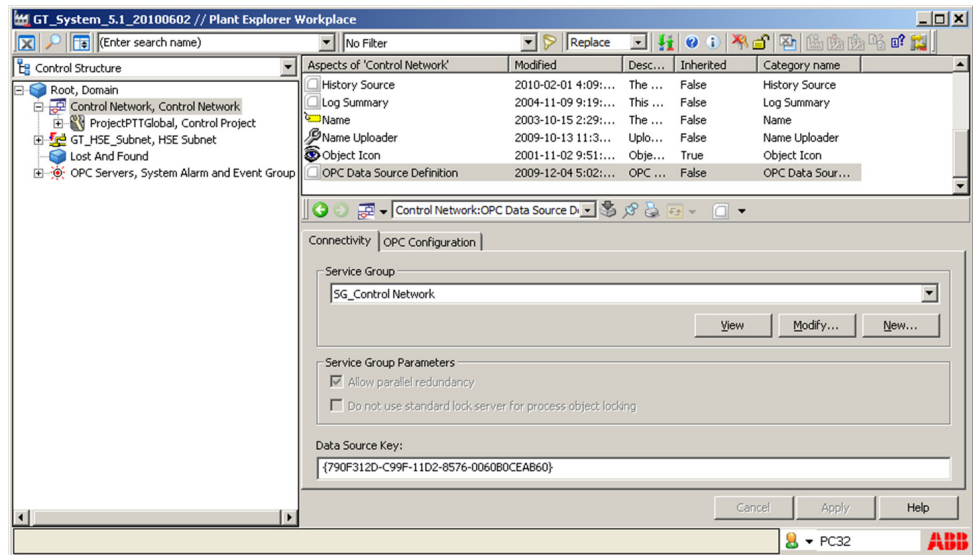

Figure 25. Data Source Definition Aspect
5. Select the **Connectivity** tab in the **Preview Area** as shown in Figure 25.
1. Go to the Data Source Definition aspect as shown in Figure 25.